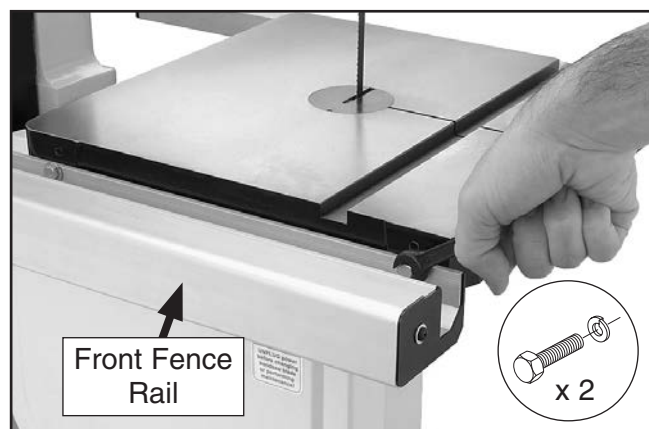

Figure 18. Installing front fence rail.
14. Attach the front fence rail shown in **Figure 18**, with (2) ¼"-20 x ¾" hex bolts and ¼" flat washers.